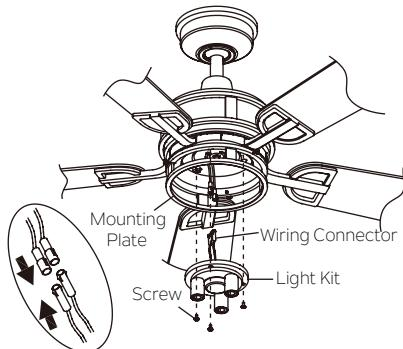

Fig. 22
**Step 1.** Remove the 3 preinstalled screws from the mounting plate as shown. Save them for reuse on step 3. (Fig. 22)
**Step 2.** Hold the light kit close to the mounting plate and connect the WHITE wires from the mounting plate and fan by pushing the connectors together. Follow the same procedure with the BLACK wires. (Fig. 22)
**Step 3.** Tuck the connections neatly into the light kit. Align the screw holes on the light kit and mounting plate. Securely tighten all 3 screws removed previously. (Fig. 22)